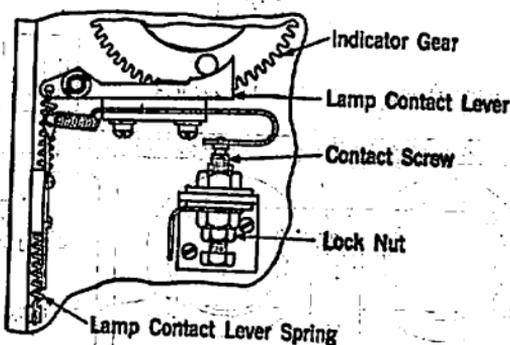

Fig. 10
3.25 The indicator lamp shall light on the 64th or 65th character perforated from zero. See Fig. 10.